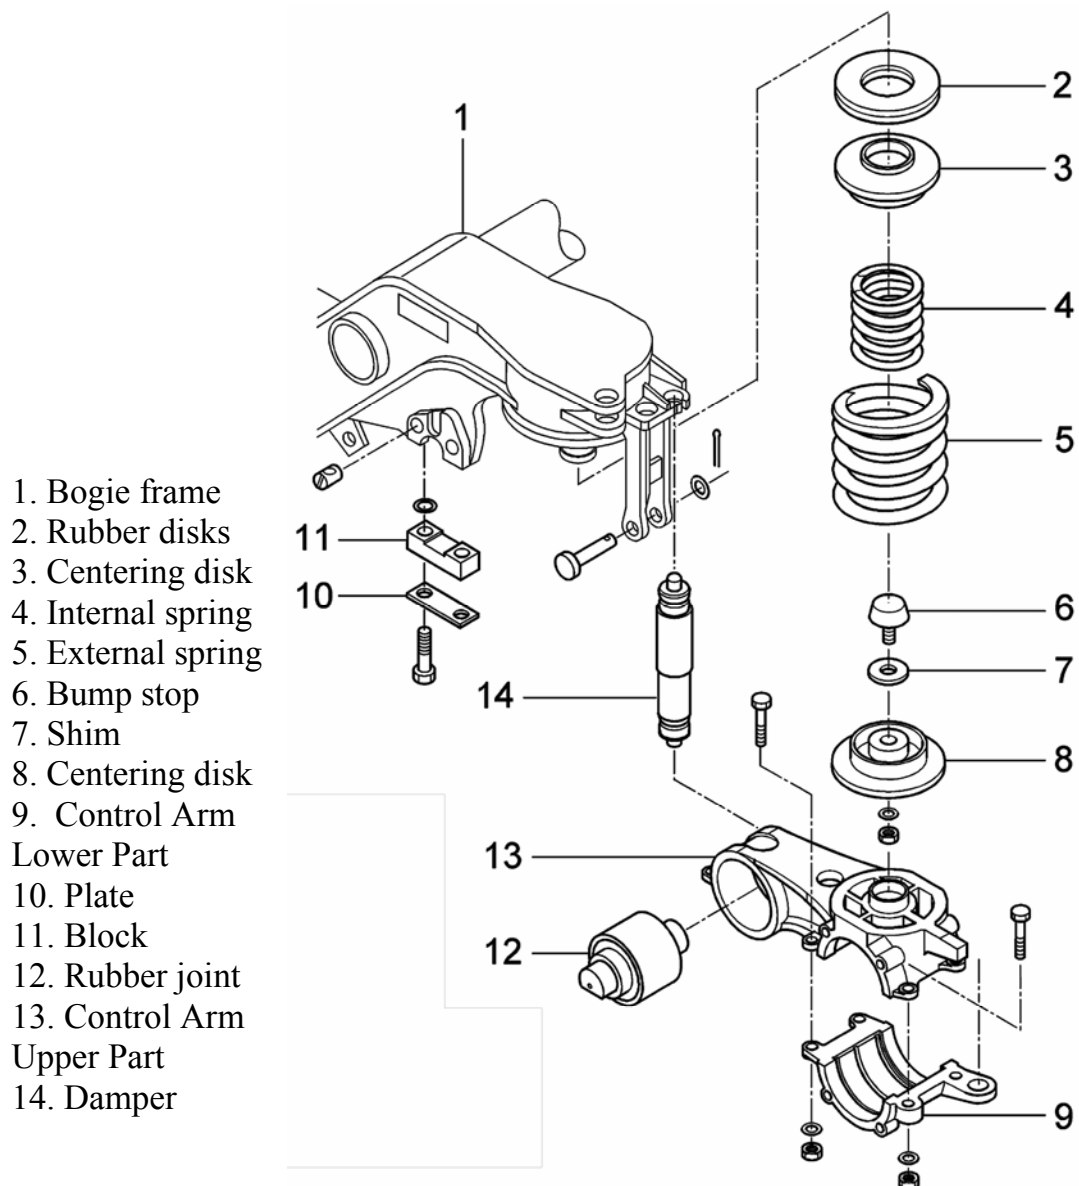

FIG. 4-3 Primary Suspension
Primary suspension is implemented by two units (see FIG. 4-3) of two steel coil springs (internal (4) and external (5)) laid out on the control arm upper part (13) by a centering disk (8) and adjustment shims (if required).